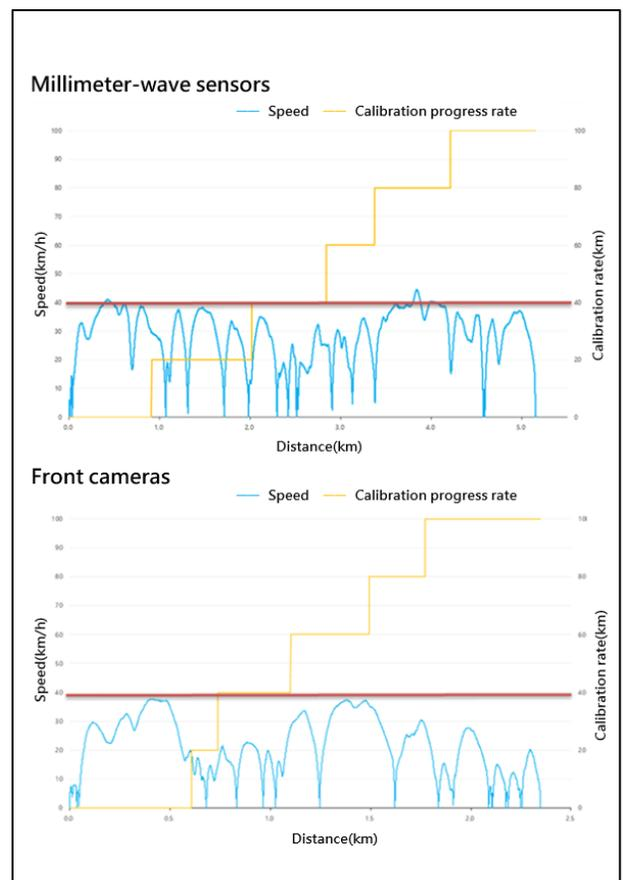

Figure 1
Please see Figure 1 for the results we obtained under the course pattern (A) and (X) (i.e.: Starting the calibration at 15:15 in the city area). It shows the relation among the progress rates of calibration, car speeds, and the driving distances.
The repair manual for this test vehicle stated that vehicle needed to be driven straight for about 5 to 15 minutes at a speed of more than 40km/h in order to initialize the dynamic calibration. During our test, the distance that we were able to drive over 40km/h was limited due to the congested traffic. We noticed, however, that the progress rate of calibration steadily proceeded even at the speed of less than 40km/h as shown in Figure 1.